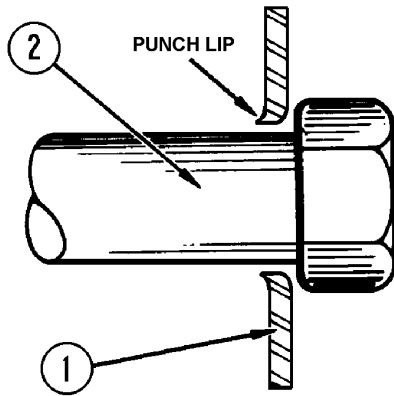

FIGURE 2-4. FLAT WASHER ORIENTATION
7. The hardened flat washers used on the front suspensions may be punched during the manufacturing process. When assembling the cap screws and washers, position the punched lip away from the cap screw head to prevent damage. Refer to Figure 2-4.